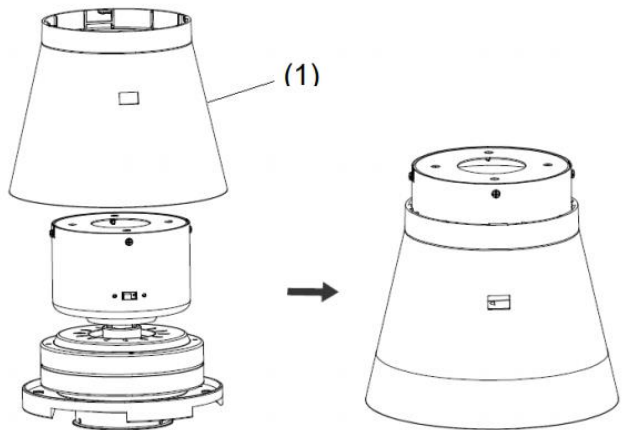

Fig. 6
- Install the motor housing (1) onto the motor assembly. (Fig.6)